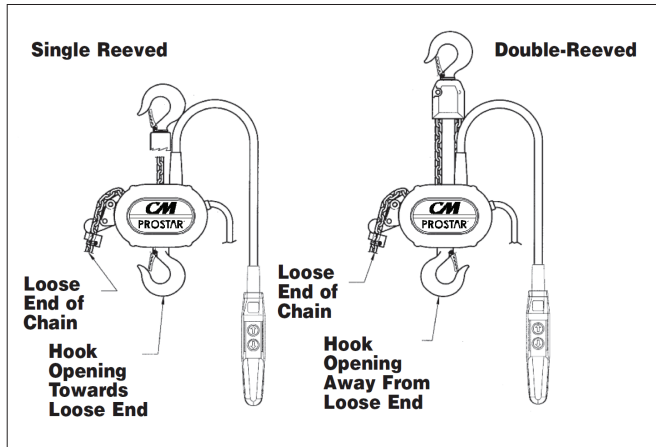

Figure 17 - Chaining Diagram
10. Properly install the upper hook as shown in Figure 17, then slide the hook retainer into the cavity on top of the hoist and secure it using hook retainer screw. Tighten screw to a seating torque of 10 in. lbs. (1.1 NM).